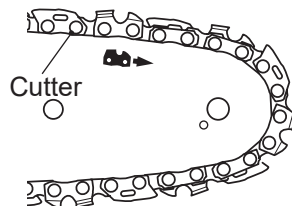

Fig. 5
4. Spread the saw chain (17) out with the cutting edges of the chain pointing in the direction of rotation. Slide the saw chain (17) into the groove around the guide bar (16). Ensure saw chain (17) is installed in correct direction of rotation (Fig. 5).